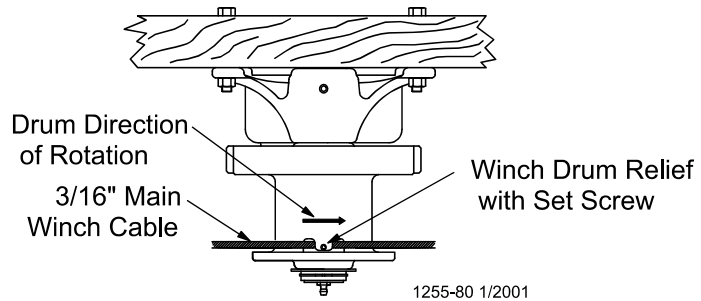

Figure 11. Attaching the Cable to the Power Winch
- Route the cable through the Winch Drum Relief located near the bottom of the drum. Tighten the set screw to anchor the cable to the drum. See **Figure 11**.